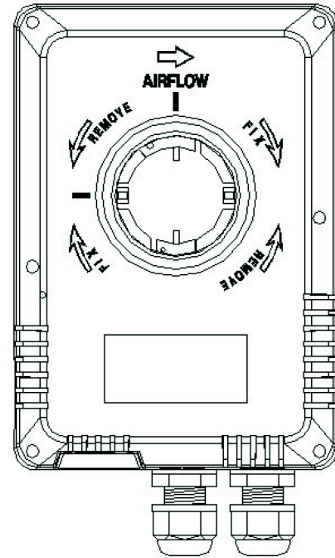

Fig. 2.
1. See markings on the main unit, as shown in Fig. 2. Turn counterclockwise to remove, clockwise to attach. The pitot tube must be matched with the original main unit with the same serial number.